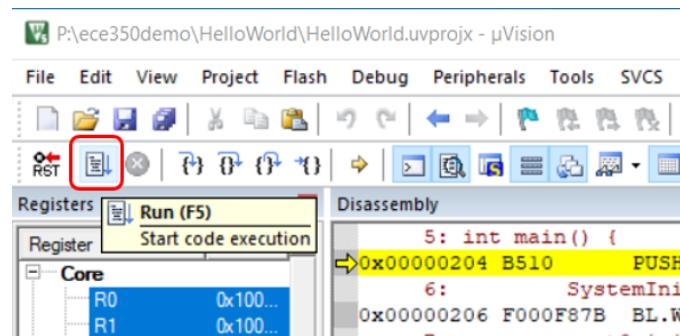
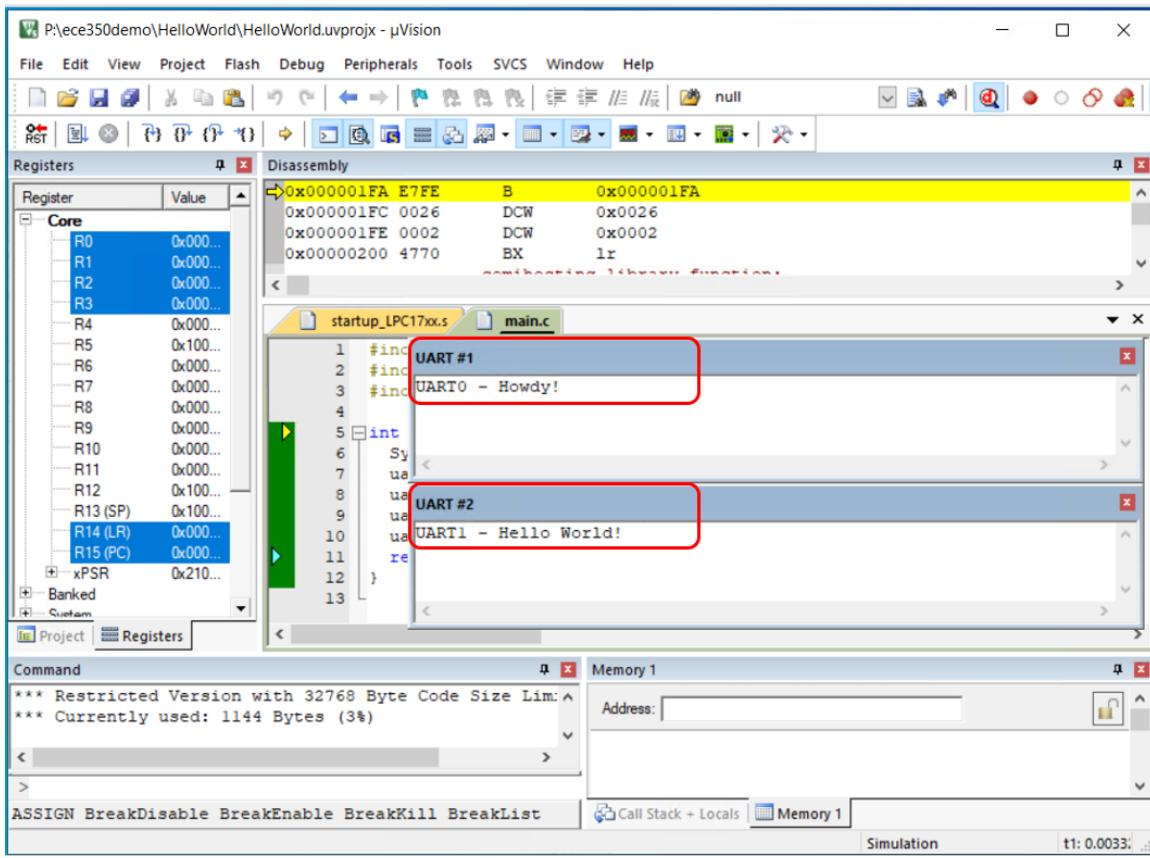

Figure 9.21: Keil IDE: Debugging. The Run Button.
Figure 9.22: Keil IDE: Debugging Output.
4. Press the “Run” button on the menu to let the program execute (see Figure 9.21). You will see the output of UART0 appearing in UART1 simulator window and the output of UART1 appearing in UART2 simulator window (see Figure 9.22). Note that we moved the UART windows from their default positions in the simulator for better view.